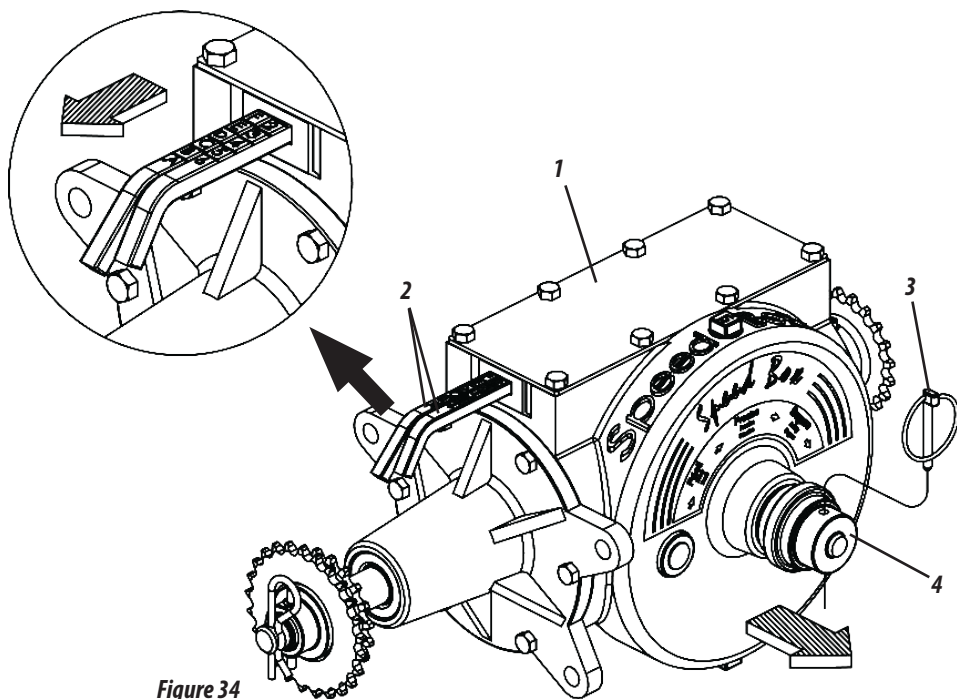

Figure 34
SPEED BOX (FIGURE 34)
- 1- Select the desired quantity in the Tables and check the corresponding combination on the levers (2). Example: Position F2 in the Table, indicates that the lever with letters must be in the "F" position and the lever with numbers must be in the "2" position, **as shown in Figure 34.**